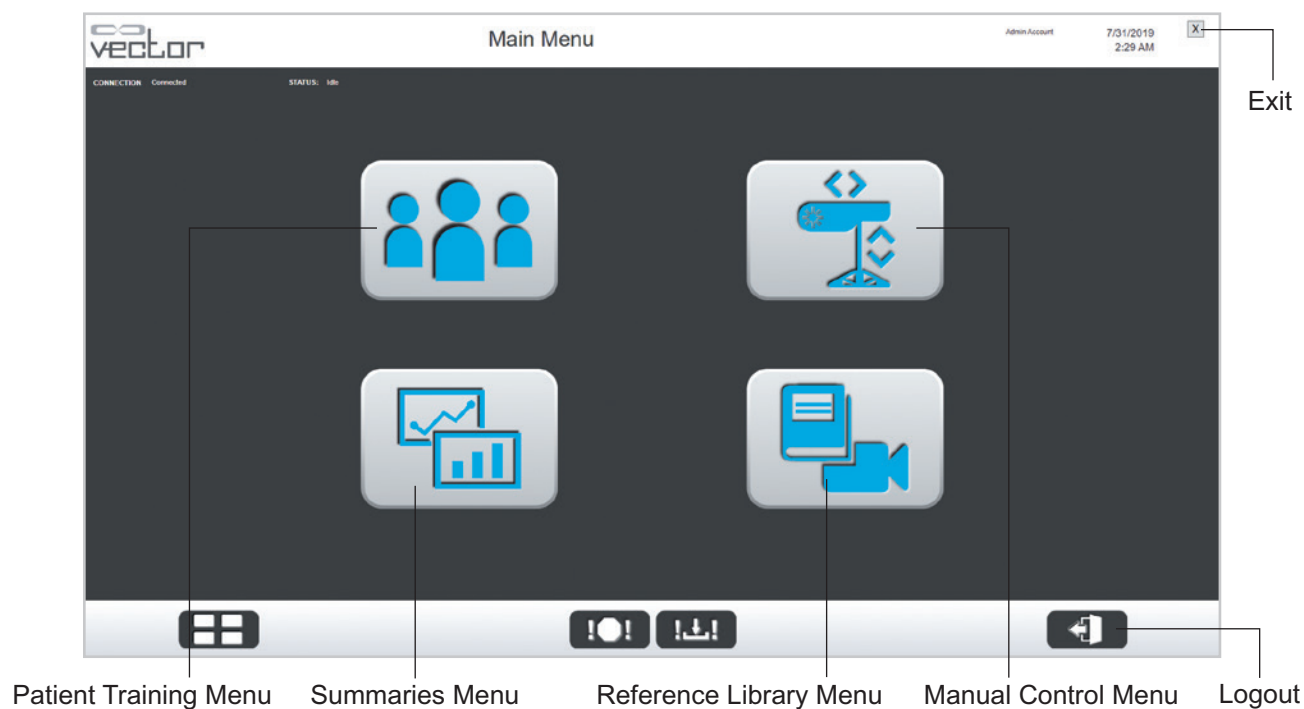

Figure 4-4: Main Menu Screen
3. The Main Menu screen will open. See Figure 4-4.
The Vector Elite main menu screen has four menu options for a single-trolley configured system and five menu options for a multi-trolley configured system. The menu options appear as buttons with descriptive icons on the Main Menu Screen. See Figures 4-4 and 4-5.
The logout button appears in the lower right corner of the display. See Figure 4-4. Pressing the logout button will bring the user back to the application login screen. It is recommended to press the logout button after each therapy session.
To exit the Vector Elite software application, press the exit button, located in the upper-right corner of the display. See Figure 4-4. The display screen will return to the desktop.
1. From the Main Menu screen, press the Patient Training Menu button. See Figure 4-4. This will open the Patient Menu screen.